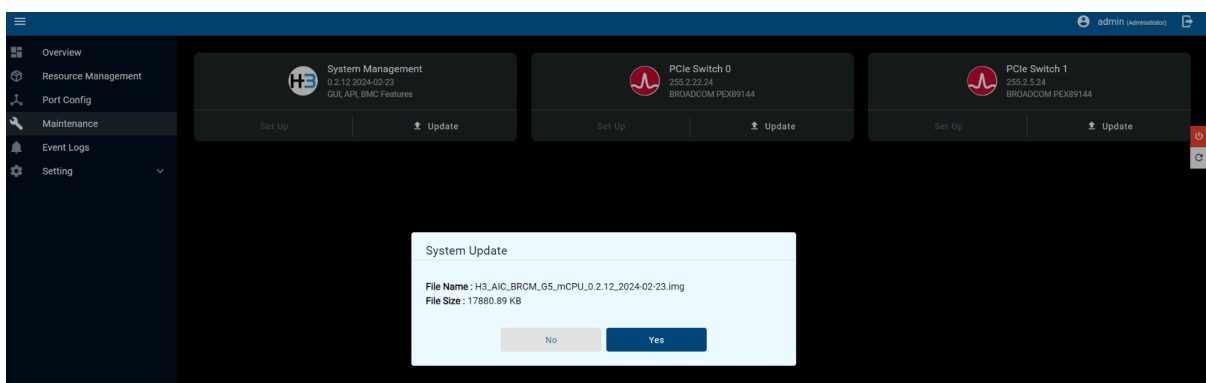

Figure 83. Confirmation Message for Firmware Update
- Click Yes to proceed with the update (refer to Figure 83).